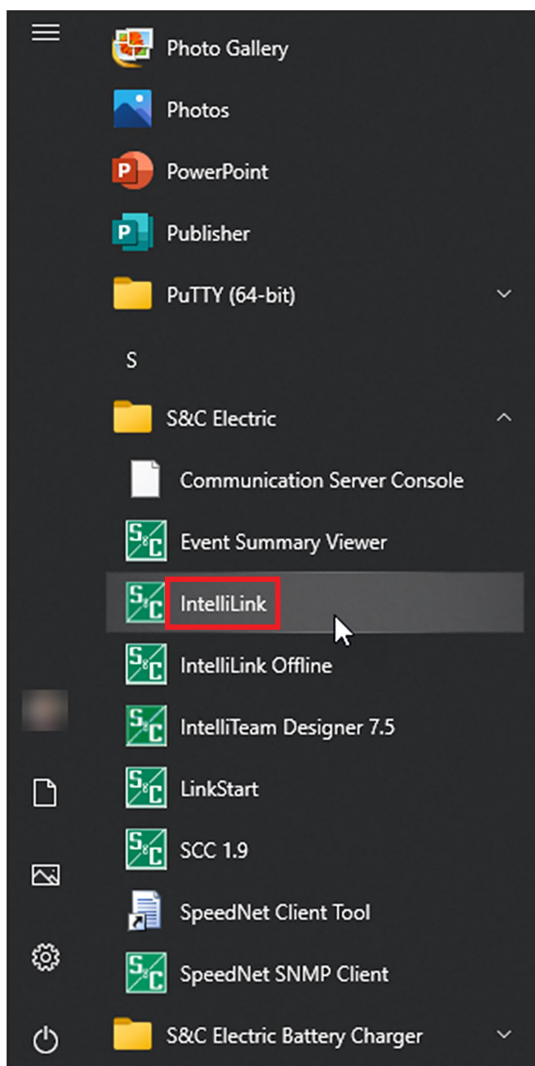

Figure 3. The Windows Start menu.
- STEP 1.** Click on the Windows **Start** button and choose the **All Programs** menu item. Open the S&C Electric folder and click on the **IntelliLink** icon. See Figure 3.